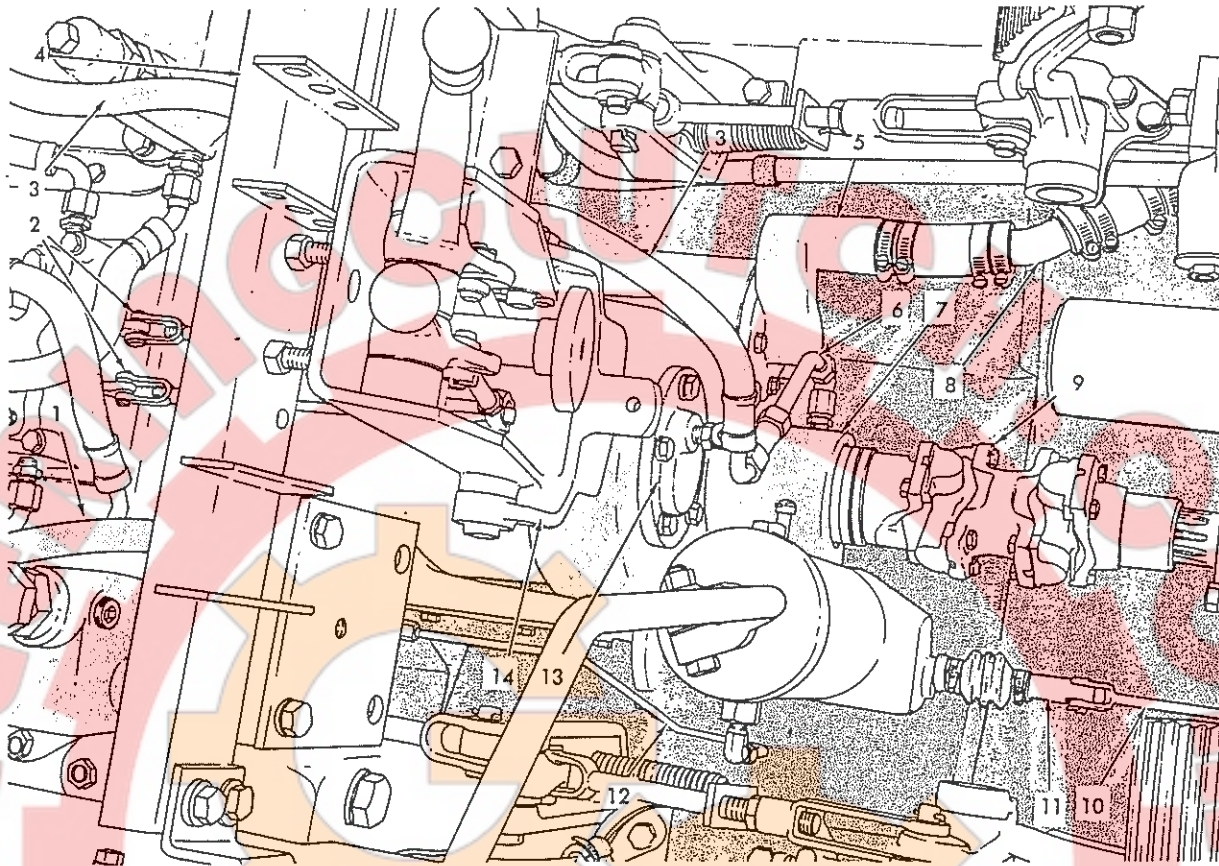

Fig. 18 Transmission Installed
4. Connect locking plunger rod, Fig. 18 (10) to plunger end (11). Adjust length of control rod (10) so transmission will shift with engine clutch disengaged and will not shift with engine clutch engaged.
5. Install drive shaft universal joint (9).
6. Install steering clutch operating lever bracket assembly Fig. 18 (14) on top of transmission case; connect rear end of control rods (2) to steering control valve operating plungers. Check steering control linkage adjustment (refer to Steering Clutches and Brakes Service Manual, Part Number 648095 for detailed information).
7. Refer to Figs. 5 and 18; connect transmission lubricating oil lines. Connect steering pump suction tube, Fig. 18 (8) to suction screen cover (5).